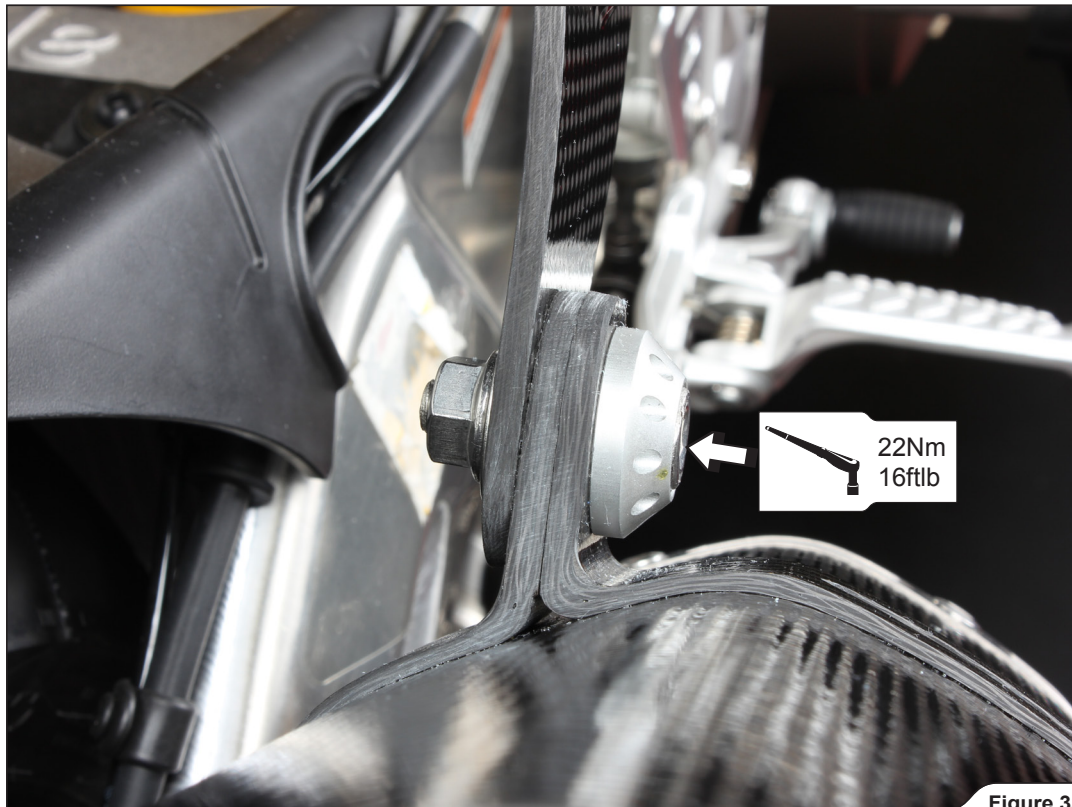

Figure 33
16. Align the muffler in respect to the motorcycle and tighten the muffler's bracket bolt to the specified torque (**Figure 33**).